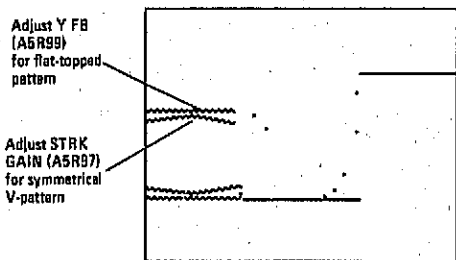

Figure 5-7. Stroke Generator Pattern
3. Connect oscilloscope probe to A5TP3 STROKE LEN and probe ground to A5TP1 GND. Adjust TRIGGER control as necessary for a stable display on the oscilloscope CRT similar to that shown in Figure 5-7.
4. Adjust A5R99 Y FB potentiometer for a flat-topped stroke pattern (far right pattern on the HP 853A CRT). Corresponding V-pattern on oscilloscope CRT should also appear flat-topped after adjustment (see Figure 5-7).